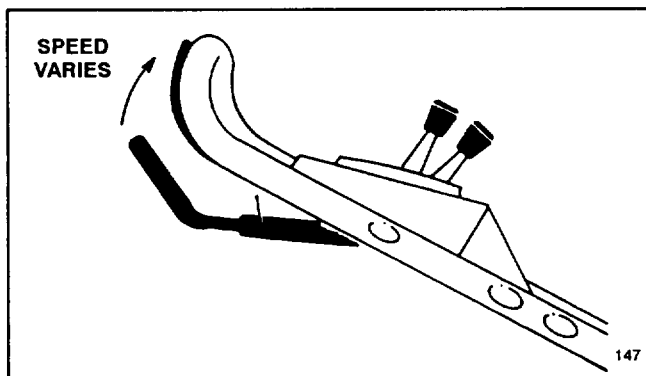

Figure 11
5. TRACTION OPERATION—Move ground speed control to desired setting and squeeze control bar against handle to drive. Ground speed varies, depending on space between control bar and handle (Fig. 11).